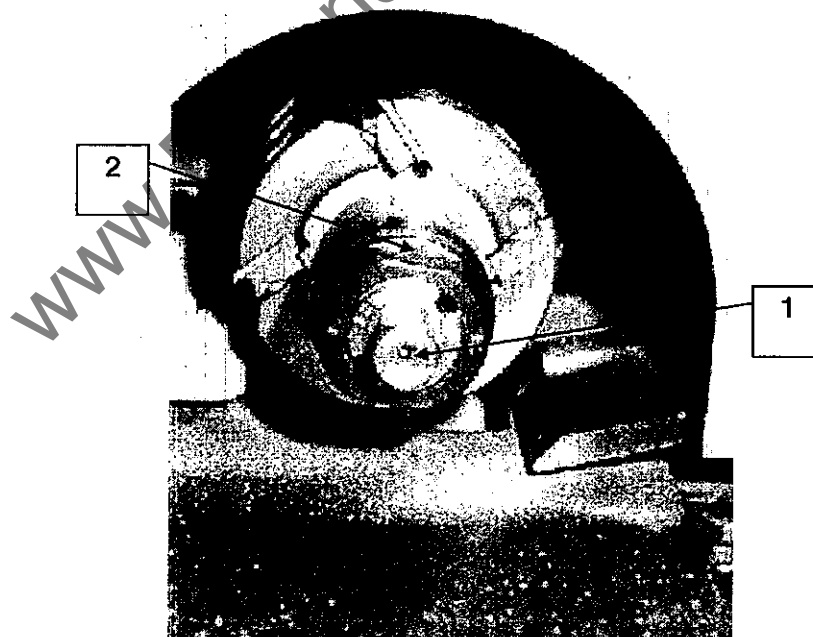

Figure 5.1.2
5.1.2 Remove/Refit Cutter Block in Spindle (Figure 5.1.2)